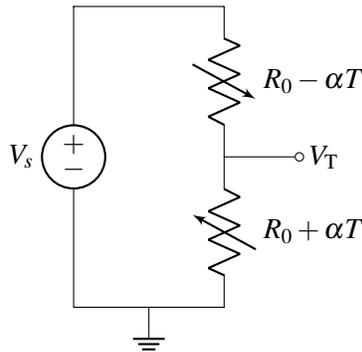

Figure 17: Temperature Sensing Circuit
- (a) (4 points) First you build a circuit that converts temperature change to voltage change. Your design is shown in Fig. 17. In your design you use two temperature dependent resistors, whose values are given by $R_0 + \alpha T$, $R_0 - \alpha T$, where R_0 is the resistor value at 0 degrees centigrade, α is a thermal coefficient, and T is the temperature of your eye pads.